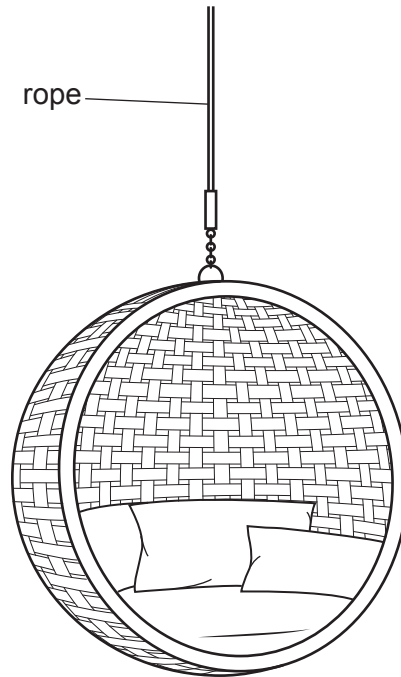

Fig. 9.1
- 9 Fig. 9.1 shows an outdoor chair that hangs by a rope from a frame.